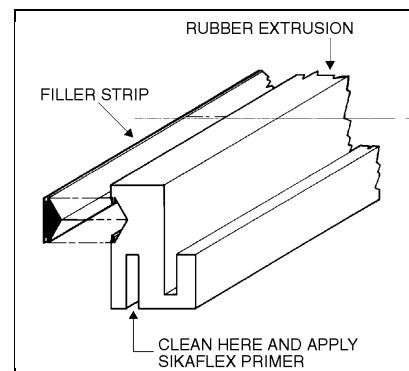

FIGURE 55: WINDSHIELD
1. Clean the rubber extrusion with wiping towels soaked with isopropyl alcohol. Wipe with dry wiping towels and let dry 1 to 2 minutes. See figure 55.